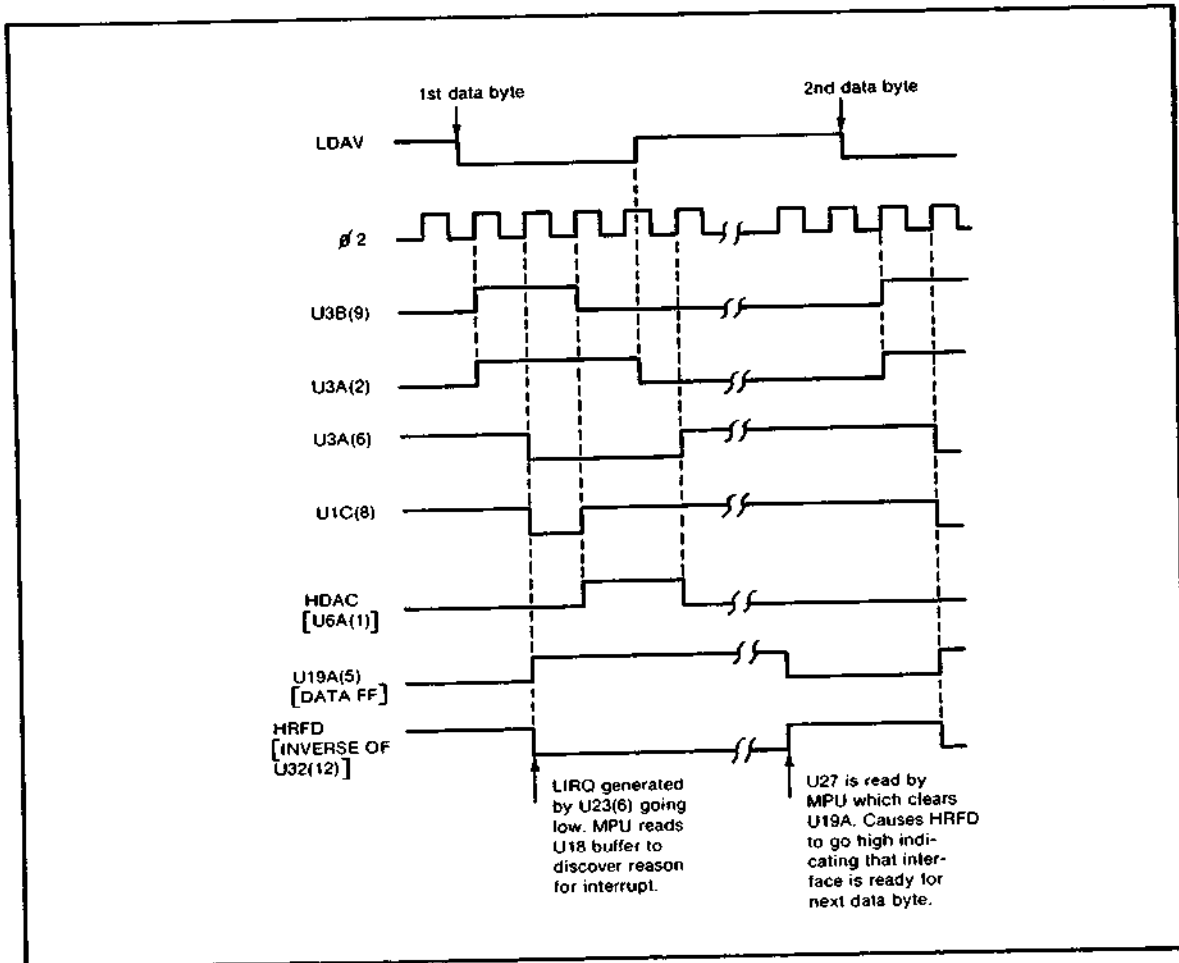

Figure 8-17. Acceptor Handshake Timing Diagram
8-334. A timing diagram of a typical acceptor handshake is shown in Figure 8-17. The talker places a data byte on the eight data lines and, after allowing for settling, pulls LDAH low to indicate to the listener (5343A in this case) that there is valid data on the data bus. The first positive transition of the  $\phi_2$  clock after LDAH goes low, clocks a high into flip-flop U3B(9). This causes the input to U3A(2) to go high. On the next clock, U3A(5) goes high and U3A(6) goes low. U3A(5) high and U3B(9) high cause U1C(8) to go low which enables ROM U23. When ROM U23 is enabled, Data flip-flop U19A(5) is set high which causes U32(12) to go high (HRFD goes low) and also clocks the data into U27. Simultaneously, LIRQ goes low to interrupt the microprocessor. The next  $\phi_2$  clock causes U3B(9) to return low, thus disabling U23. Since U3B(9) is low and U3A(6) is low, HDAC goes high, indicating to the talking device that the data has been accepted (read into U27) and may be removed from the data lines. The talker then removes the data from the bus and takes LDAH high to indicate that there is not valid data on the bus. U3A(2) goes low when LDAH goes high. On the next positive transition of  $\phi_2$ , the low at the input to U3A is clocked into the output, causing U3A(5) to go low and U3A(6) to go high. This causes HDAC to return low. After the